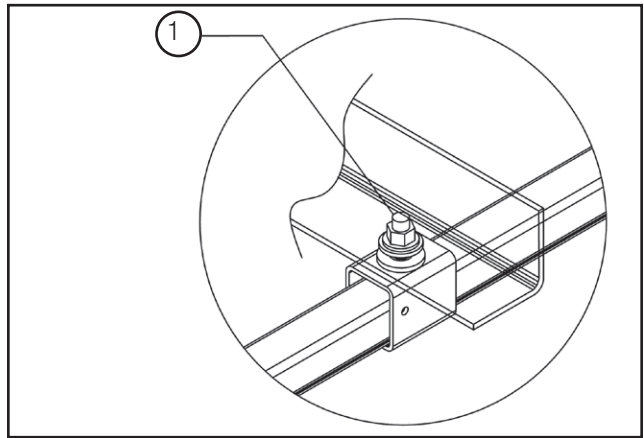
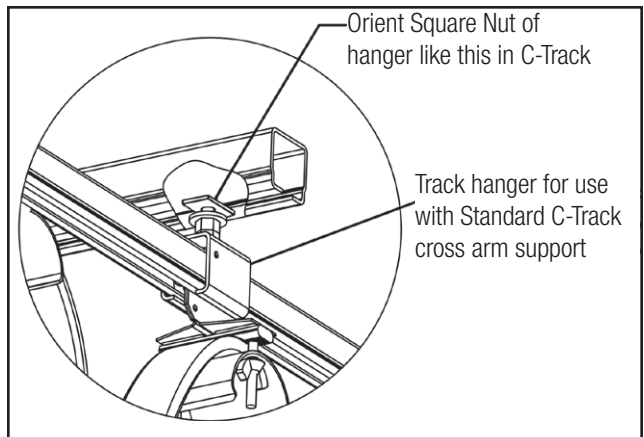

Figure 7-1
Figure 7-2
1. Slip the appropriate number of hangers on each section of C-Track (2) for a 10' section and (4) for a 20' section of C-Track. Torque nuts to 30 ft/lbs. See **Figure 7-1** and **Figure 7-2**.